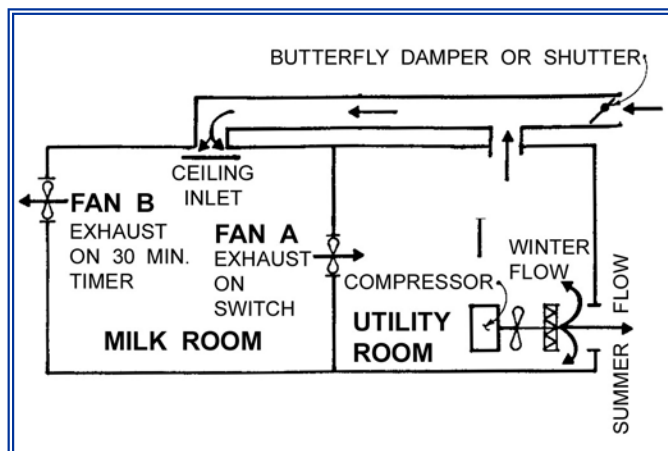

Figure 2 Cross Section Showing Ventilation Details
- ◆ Install two exhaust fans in the milkroom. The fan and duct system is shown by schematic in Figure 2. **Fan A** should exhaust into the utility room. Put this fan on a wall switch in parallel with the milkroom lights, this fan should be on whenever the milkroom is in use. **Fan B** on a 30-minute timer switch, exhausts to the outside. The operator should turn **Fan B** on during cleaning and whenever condensation occurs.